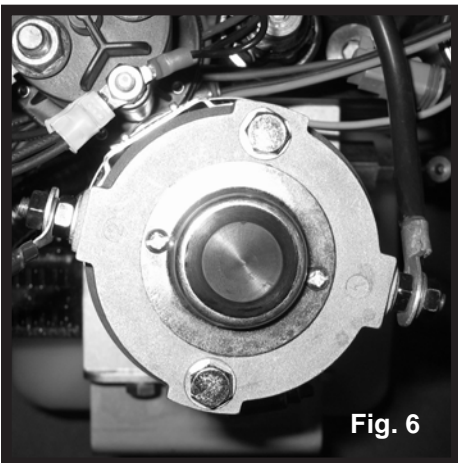

Fig. 6
1. Remove plastic cap. (See Fig 6).